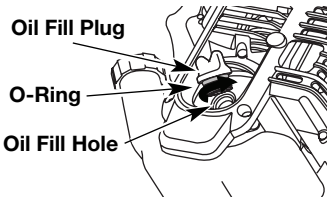

Fig. 16
3. Remove the oil fill plug from the crankcase (Fig. 16).